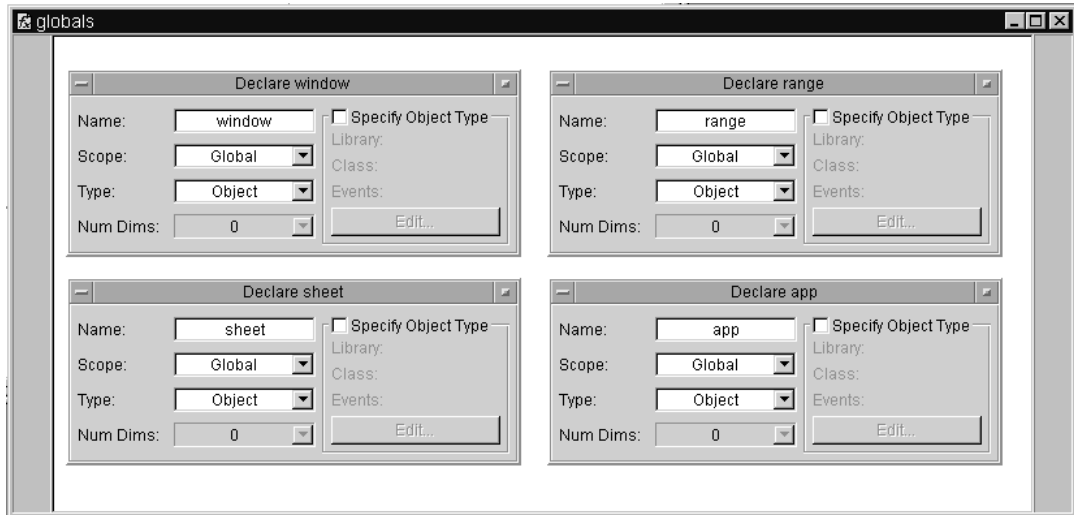

Figure 150 The Globals UserFunction
- 4 Clone this object three times, and rename the other objects as follows: app, range, and window. Size and move the globals UserFunction below Main. It should look like Figure 150.
- 5 After you have compared the entries to Figure 150, iconize the four objects.